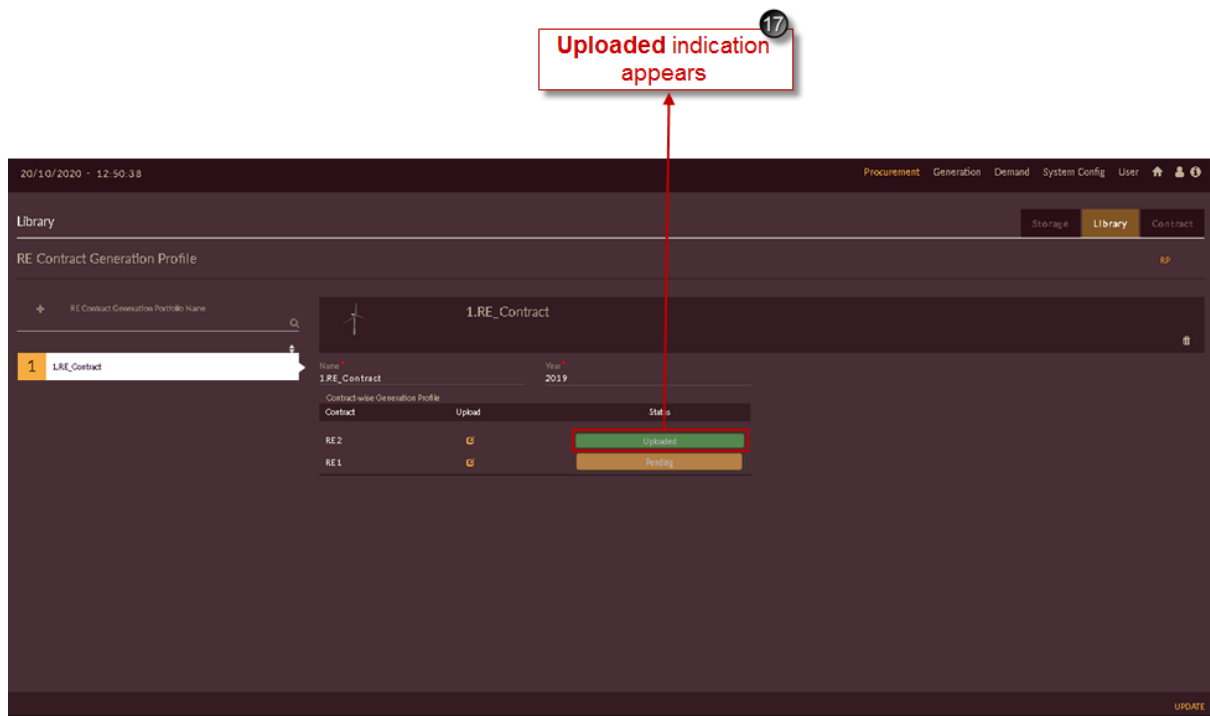

Figure 252. Uploaded Profile Indication
17. Once profile is imported successfully, **Pending** **Pending** indication will get changed to **Uploaded** **Uploaded** indication as shown in Figure 252.